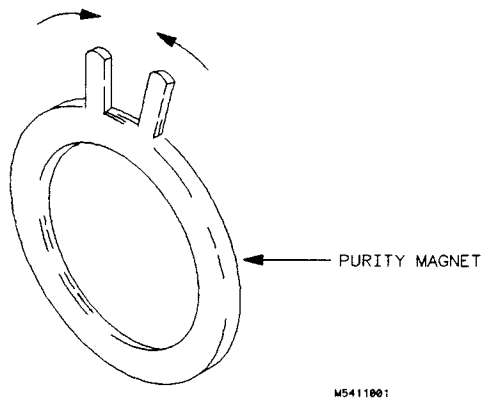

Figure 4-4. Purity Magnet Centering
4. Set purity magnet tabs to mechanical center. Refer to figure 4-4.